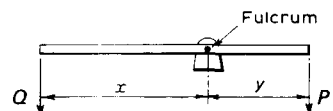

Fig. 2.36
**Principle of moments.** Referring to Fig. 2.36: